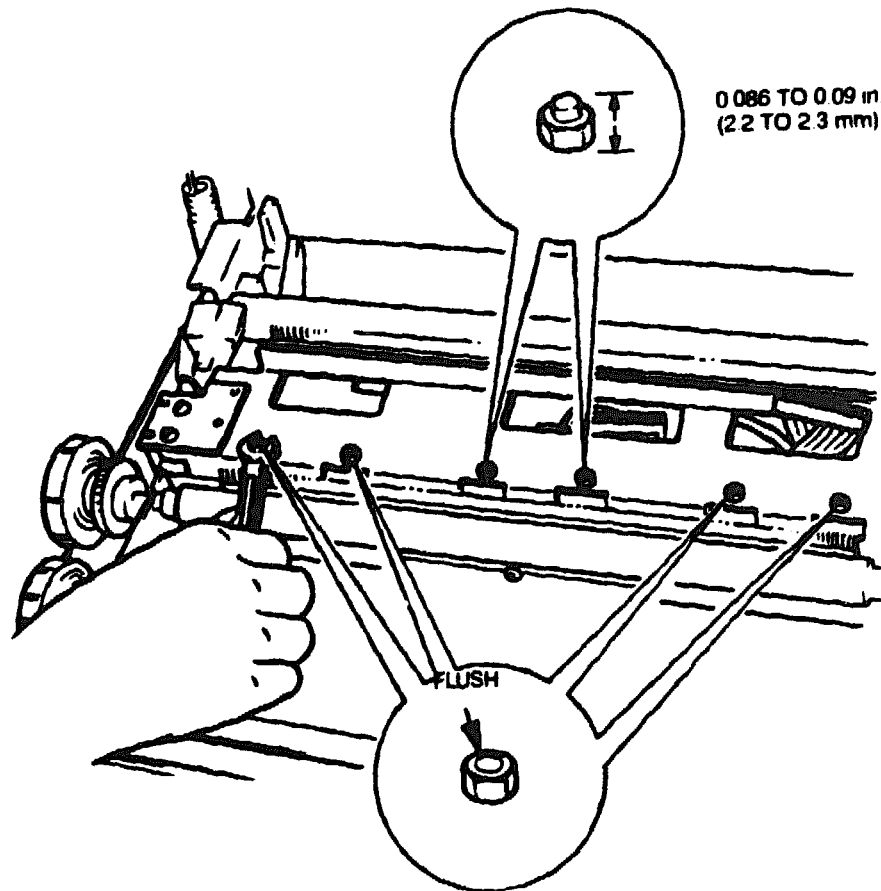

Figure 4-19 Thermal Head Height Adjustment
2. Inspect the six screws on the head holder plate (see Figure 4-19). The ends of the two middle screws should protrude from the nuts, and the distance from the base of the nuts to the ends of the two middle screws should be 0.086 to 0.090 in. (2.2 to 2.3 mm). Use a feeler gauge to verify that the two middle screws are adjusted correctly. The other four screws should be flush with the nut surface. If the measurement for each screw is not within specification, refer to the next step.
3. Insert a 5.5 mm, open-end wrench into each head holder plate hole to keep each screw from turning. Using a second wrench, turn the nuts shown in Figure 4-19 to adjust the height of each hexagon head screw until each screw meets the specifications provided in step 2. When the correct measurement has been obtained, reinstall the thermal head.